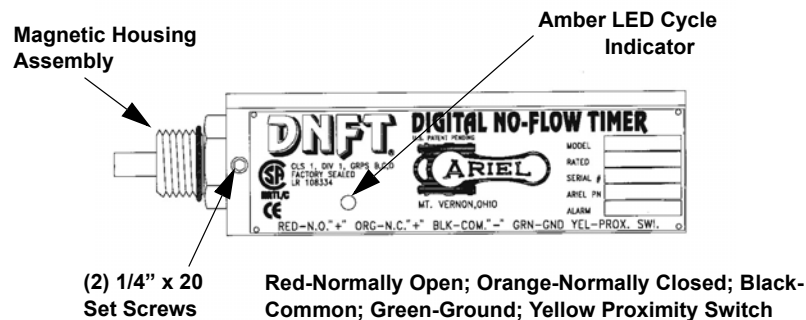

FIGURE 4-4: DIGITAL NO-FLOW TIMER SWITCH - (DNFT)
The DNFT is a microprocessor-based switch used to sense no-flow or slow-flow conditions in the compressor cylinder lubrication system to facilitate alarm and/or shutdown. The DNFT also contains an amber light-emitting diode (LED) cycle indicator to provide a positive visual indication of system operation. The Ariel DNFT includes a proximity switch. The standard DNFT is factory set for (3) three minutes from no-flow to alarm/shutdown signal and is not adjustable. Optional programmable models are available. Introduced in September of 1996, the DNFT replaced the traditional mechanical no-flow switch and is standard on all new units. Since its introduction, the DNFT has undergone a series of design enhancements and several versions are in service. The current DNFT is shown in Figure 4-4: